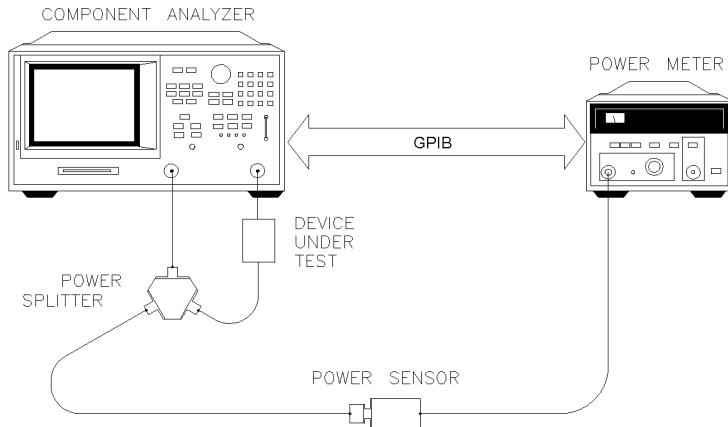

Figure 13-8. Continuous Correction Mode for Power Meter Calibration
You can set the analyzer to update the correction table at each sweep (as in a leveling application), using the continuous sample mode. When the analyzer is in this mode, it continuously checks power at every point in each sweep. You must keep the power meter connected as shown in Figure 13-8. This mode is also known as power meter leveling, and the speed is limited by the power meter.
- 1 Connect a power splitter or directional coupler to the RF power that you are applying to your test device, as shown in Figure 13-8.